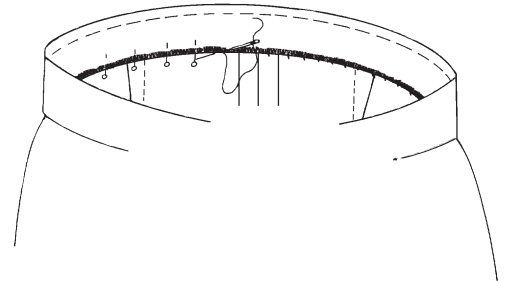

Fig. 12-6
9. Pin the unnotched side of the waistband to the seam allowance on the inside of the garment. Slipstitch the turned (or serged) edge to the waistline seam. (Fig. 12-6)